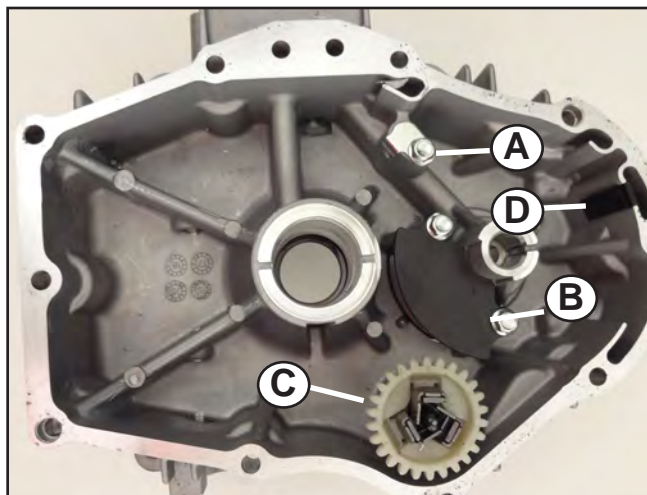

Figure 13
2. Insert retainer, oil screen, and plate, mount with two screws. Torque oil screen cover bolts to 89 in-lbs. (10 Nm) (Figure 13).